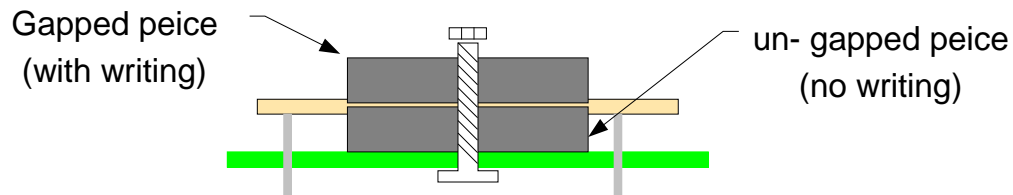

Figure 15: Flyback transformer mounting to PCB
21. Assemble the flyback inductor (T2) as in Figure 15 with the ungapped (no marking) 36/22 pot core half on the bottom, then the pinned bobbin, followed by the gapped (with markings) core piece. Secure the flyback inductor (T2) with the nylon screw inserted from the bottom of the PCB and a nylon washer. Hand tighten with a 11/32" nut driver. Solder pins after tightening screw.